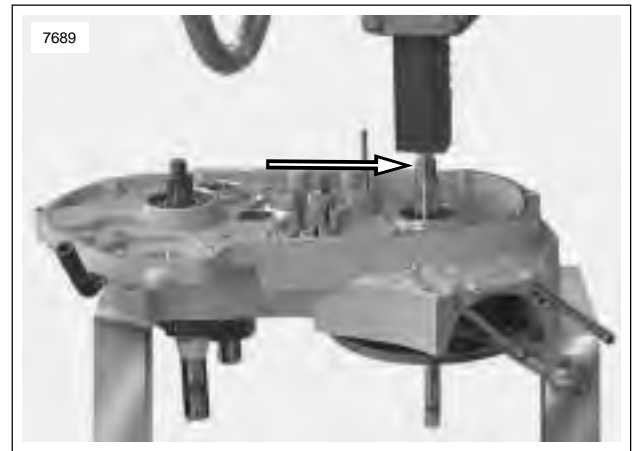

Figure 3-111. Pressing On End Of Sprocket Shaft To Remove Flywheel Assembly From Crankcase
- See Figure 3-111. Mount the left crankcase half and flywheel assembly on a press table, supporting crankcase on parallel bars. Press on end of sprocket shaft with arbor press until flywheel assembly is free from crankcase half. Do not drive flywheel assembly from crankcase half as flywheels may be knocked out of alignment.